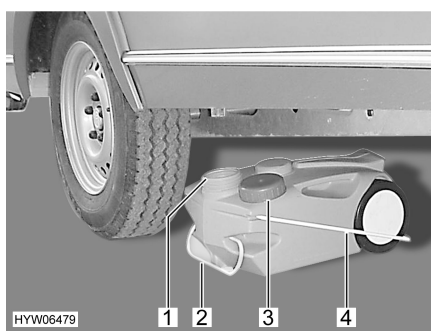

Fig. 72 Waste water tank, mobile
- Use the cap (Fig. 72,3) to close the opening of the waste water tank (Fig. 72,1).
- Use the handle (Fig. 72,2) to pull out the waste water tank.
- Fold the carrying handle (Fig. 72,4) up and upright the waste water tank.